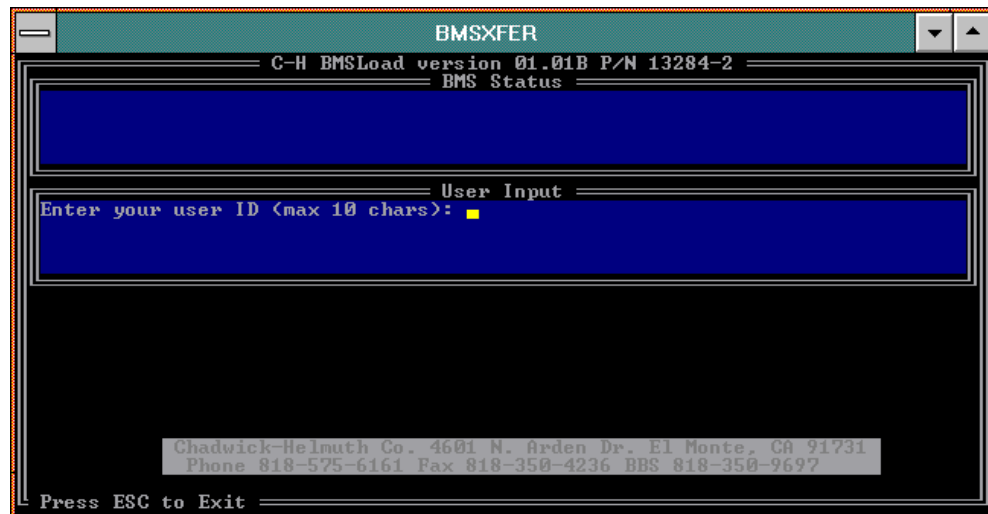

Figure 66. Upload Status Screen (User I.D.)
6. The BMS Upload Status screen will appear and ask you to enter your ID. Enter your ID and press ENTER (refer to Figure 66).